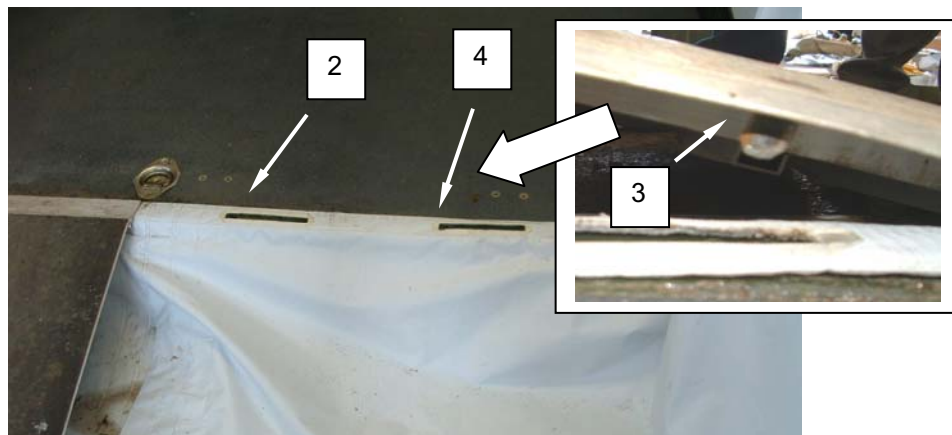

Figure 1. Replace the Ramp.
1. Remove the ramp (**Figure 1, Item 1**) from the personnel door sill (**Figure 1, Item 2**).
2. Ensure the modified endwall is correctly positioned, and install the ramp (**Figure 1, Item 1**) onto the personnel door sill (**Figure 1, Item 2**) and over the bootwall fabric. Ensure that the pins (**Figure 1, Item 3**) are correctly aligned with the holes (**Figure 1, Item 4**) in the door sill.